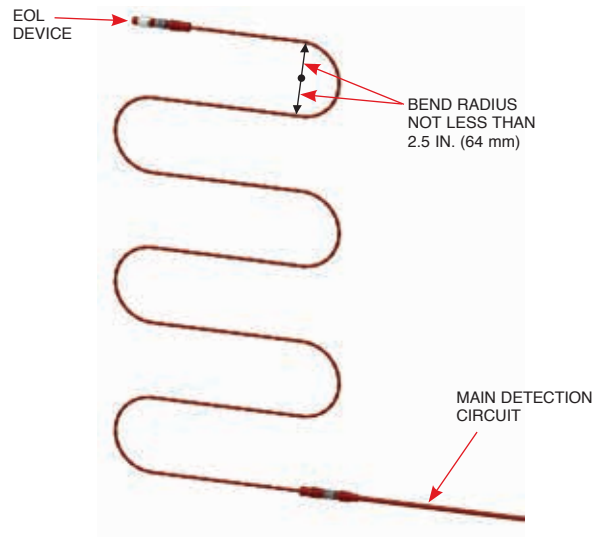

FIGURE 4-3
4. The minimum bend radius for Linear Detector must not be less than 2 1/2 in. (64 mm). See Figure 4-3.
- ▶ 5. May be installed anywhere on main trunk after the EMA (if used). See Figure 4-3.
- ▶ 6. If last device, install an EOL Device (Part No. 439396) on the end of the Main Detection Circuit. See Figure 4-3.